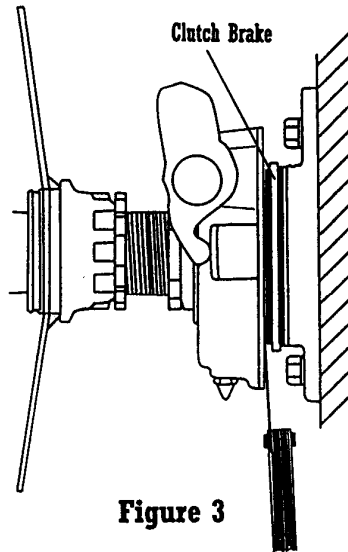

Figure 3
4. On transmissions equipped with a clutch brake, verify clutch brake engagement at bottom 1" or less of clutch pedal travel. This can be done by testing for retention of a 0.010" feeler gage or a business card (see Figure 3). If improper, verify 1/2" gap and refer to vehicle manufacturer's manual for proper pedal height adjustment.